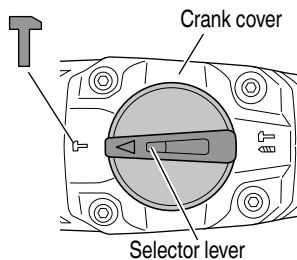

Fig. 7
- (1) Switching to “hammering”
- (b) Align  of the selector lever and  of the crank cover as illustrated in Fig. 7.